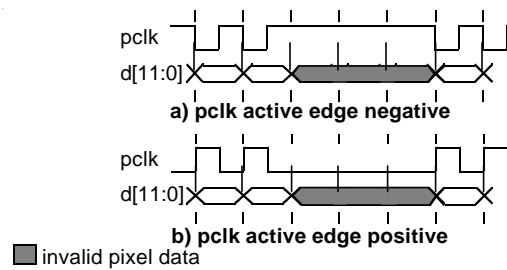

Figure 36. pclk in Data Ready Mode
- In data ready mode, the pixel clock output pin (*clk*) will produce a pulse with a specified level every time valid pixel data appears on the digital video bus $d[11:0]$ as shown in Figure 36.